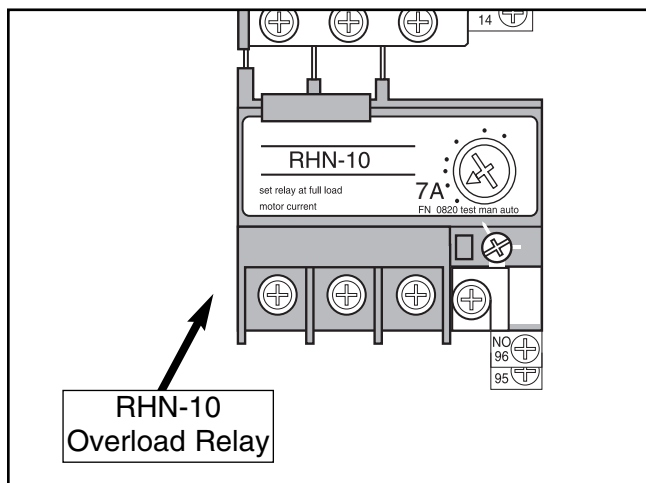

Figure 4. Overload relays.
3. Remove the RHN-18 overload relay and replace it with a RHN-10 (5.5-8.5A) type, with the dial set to 7A (Figure 4).